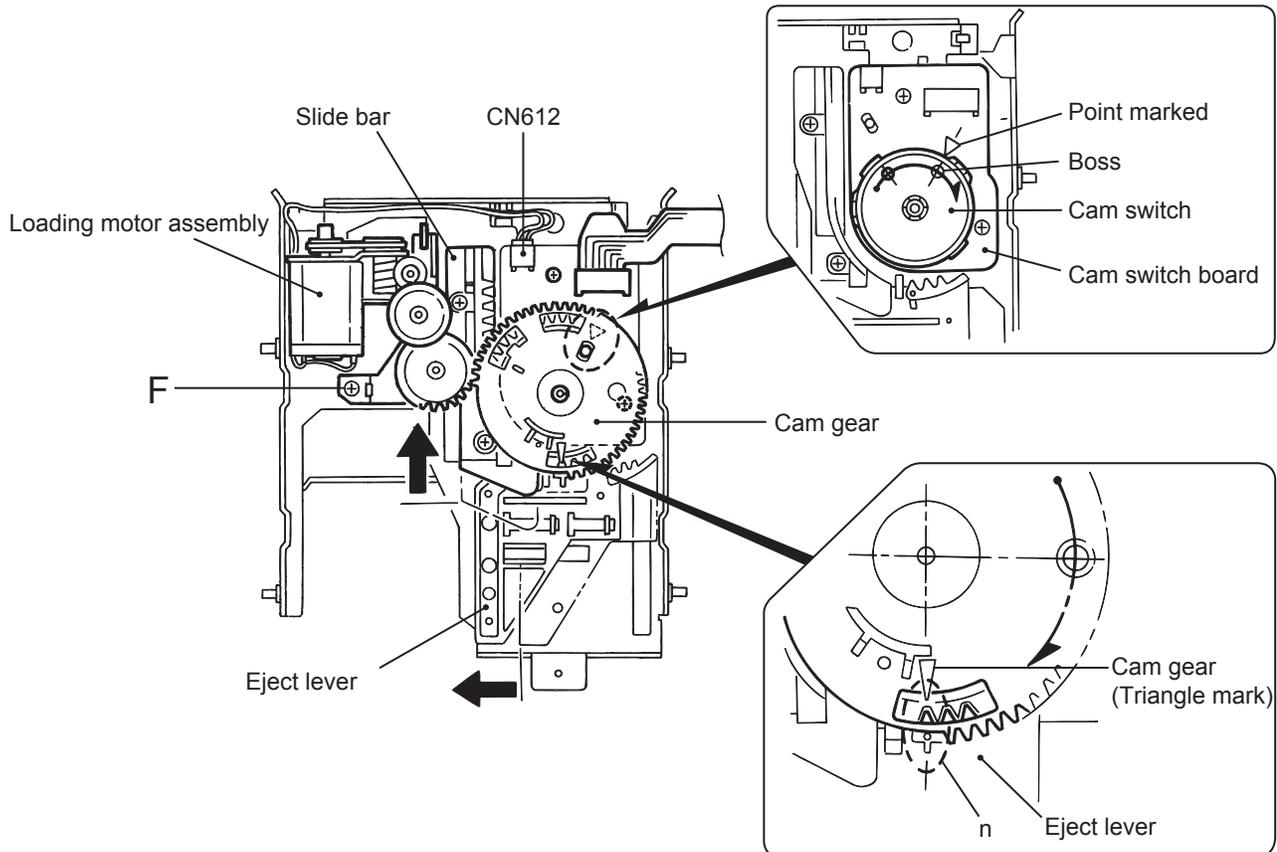

Fig.23
- (4) Reattach the wire holder to the UD base while engaging the UD base hook marked u to the wire holder slot marked t (At the same time, the boss on the reverse side of the wire holder is fitted to the UD base round hole).
- (5) Reattach the cam switch board using the two screws **H**. (Fig.23)
- (6) Turn the cam switch to bring the boss to the point marked  $\nabla$  on the cam switch board. Reattach the cam gear using a slit washer while fitting the cam gear slot to the cam switch boss. (Fig.23)
When reattaching the cam gear, the cam switch boss should be fitted to the cam gear slot, and the triangle mark of the cam gear should be aligned to the hole of the eject bar as shown in Fig.23.
- (7) Reattach the loading motor assembly, using the screw **F**. Connect the harness extending from the loading motor to connector CN612 on the switch board and fix it with the wire holder. (Fig.23)